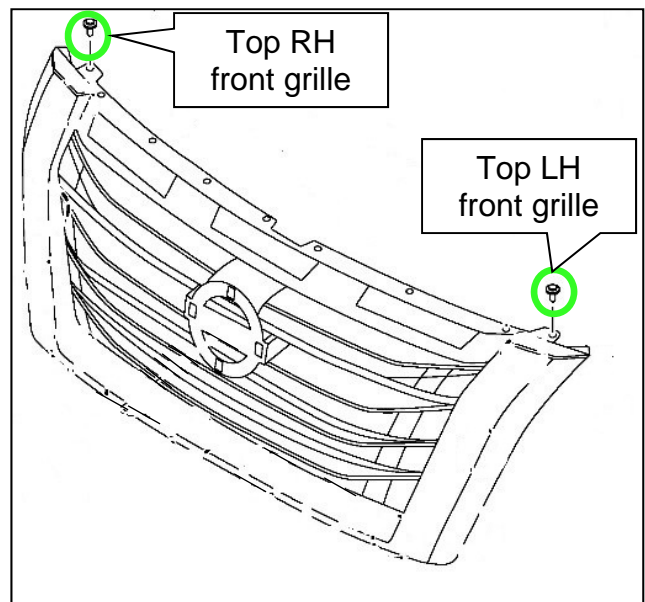

Figure 28
- b. Install the top passenger (RH) side and the top driver (LH) side front grille retainer clips (Figure 28).